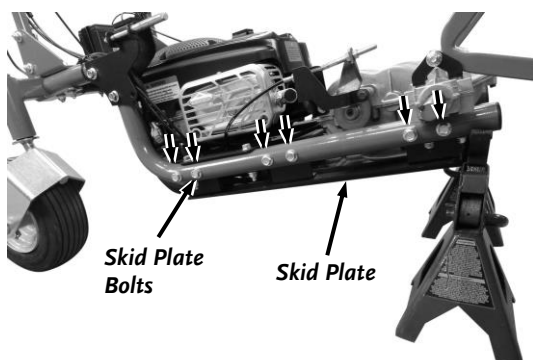

Figure 40
4. Remove the twelve (six per side) Skid Plate Bolts at the sides of the Frame using a 9/16" Socket with Ratchet and Extension (**Figure 40**).